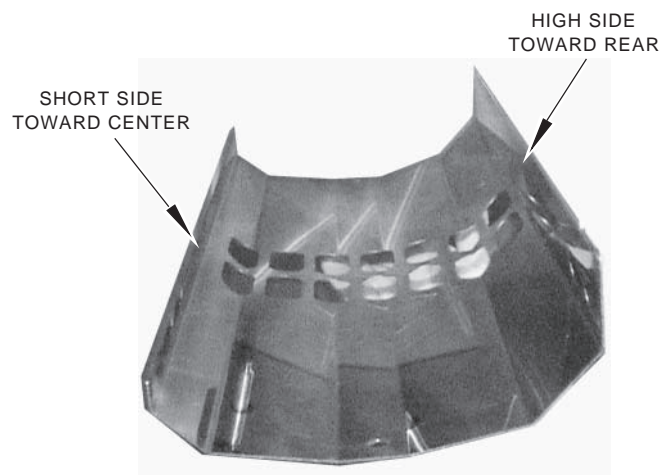

Fig. 73
14. Working from front of oven, position high side of vent-grate toward rear of oven, short side faces center of oven (Fig. 73).